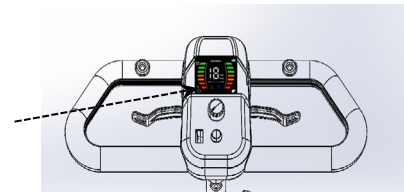

Figure 14: Key Switch (ON)
This meter (see *Figure 5 – Page 15*; and *Figure 14 – Page 22*) shows the amount of voltage in your Zoom Mobility’s batteries.
4. Turn the key clockwise to the “ON” position. See *Figure 14 on page 22*.